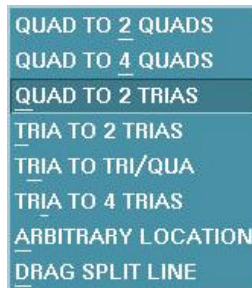

Figure 6.3.10 Shell Split
- Select the button beside SHELL to activate the shell options, see Figure 6.3.10.